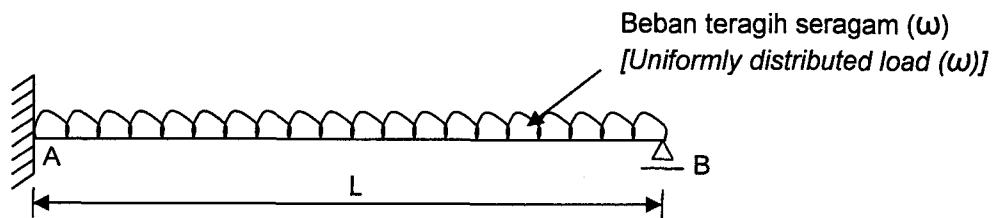

**Figure 2.0/Rajah 2.0**
2. (a) Calculate the indeterminacy of the following structures. (**Figure 2.0**)